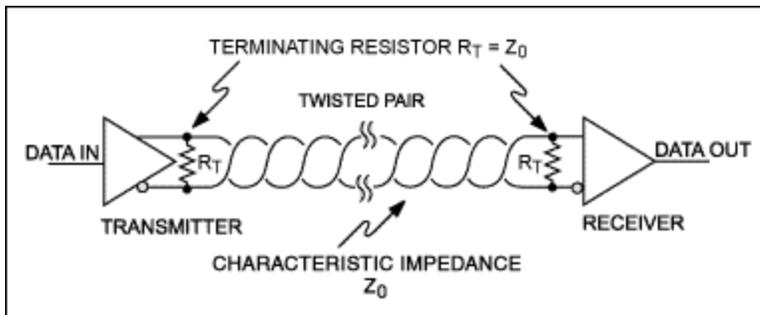

Figure 10. Single transmit, single receive network.
- Proper wiring[6]: RS-485 specifies differential transmission, which requires two signal wires in addition to a ground wire (commonly a 24AWG twisted pair) to transmit the signal. The two signal wires carry signals differentially, and greatly reduce the problems of radiated EMI and EMI pickup due to the excellent common mode rejection. The common characteristic impedance of this wire is between  $100\Omega$  and  $120\Omega$ , which is also the resistance used to terminate each end of the cable—in the interest of reducing reflections and other transmission-line effects. **Figures 10 and 11** illustrate properly wired systems.